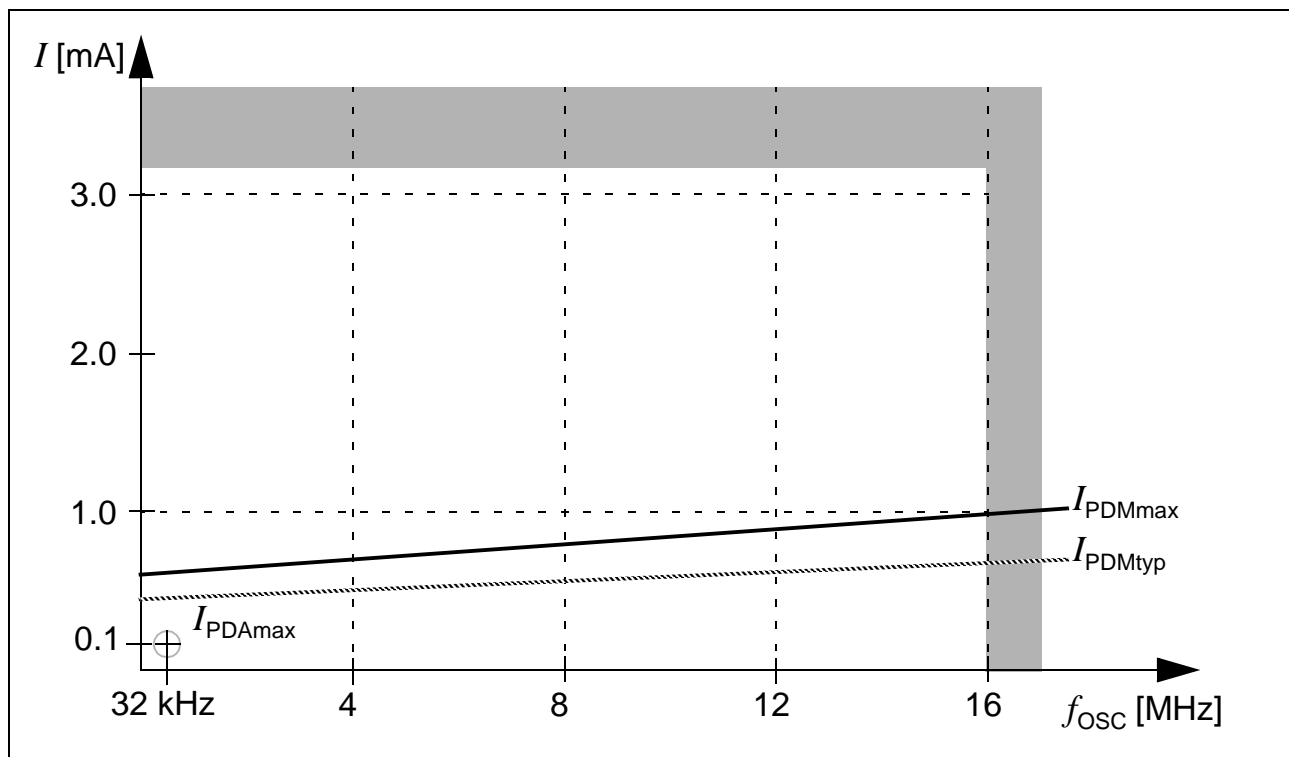

Figure 11 Sleep and Power Down Supply Current due to RTC and Oscillator running, as a Function of Oscillator Frequency
- 7) This parameter is determined mainly by the current consumed by the oscillator switched to low gain mode (see Figure 11). This current, however, is influenced by the external oscillator circuitry (crystal, capacitors). The given values refer to a typical circuitry and may change in case of a not optimized external oscillator circuitry.